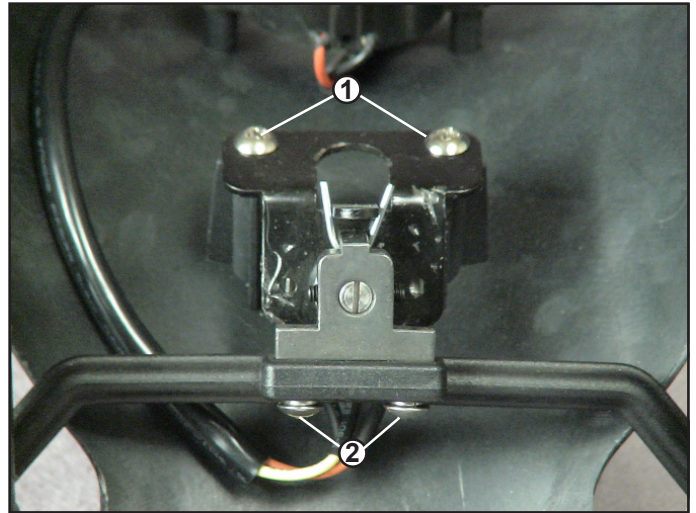

Figure 24. Throttle Pot
2. Remove the eight (8) screws that fasten the back tiller shroud to the tiller.
4. Remove the two (2) screws that fasten the throttle body to the tiller shroud (See #1 on figure 24.)
5. Remove the two screws that fasten the throttle lever to the throttle control lever bracket (See #2 on figure 24) and lift off the throttle lever.